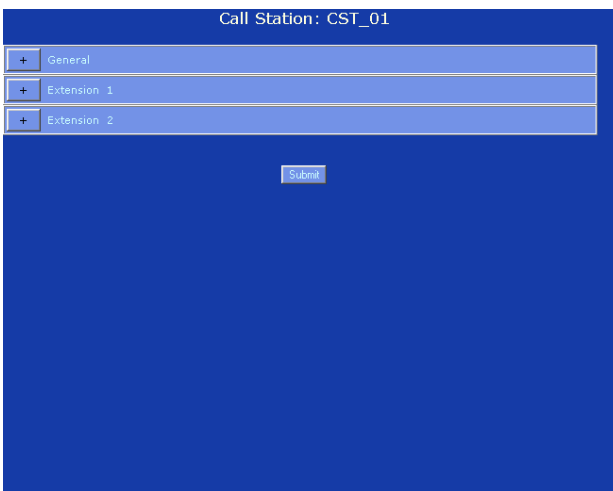

figure 38.37: Switch trigger, step 2
- 2 Click the name of the call station to which the keypad of which the key that must be configured has been connected. A screen similar to the one in figure 38.37 appears in the main frame of the web interface.